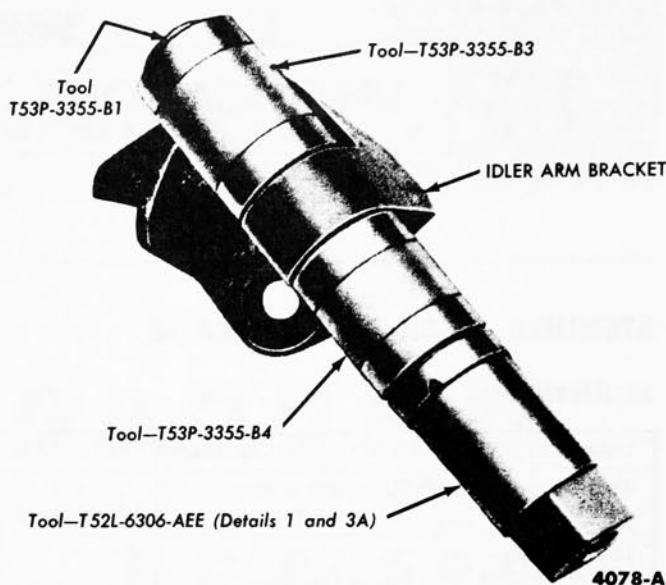

FIG. 23—Idler Arm Bushing Installation
5. Position a new bushing in the No. 3 spacer of the tool on the upper side of the bracket, and install the rest of the tool on the bracket as shown in Fig. 23. Make sure that the chamfer on the spacer is next to the slanted side of the bracket, and that the driver on top of the bushing is firmly seated on the bushing. The number 4 locator should be positioned with the end marked "BKT" against the lower side of the bracket.